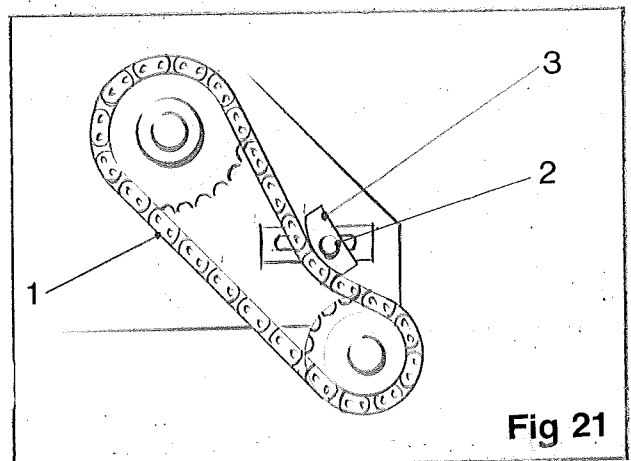

Fig 21
The 'C' elevator drive chain (item 1, fig 21) can be adjusted for tension by loosening the retaining bolt (item 2, fig 21) and sliding the nylon tensioner block (item 3, fig 21) in the required direction. Finally, retighten the retaining bolt.